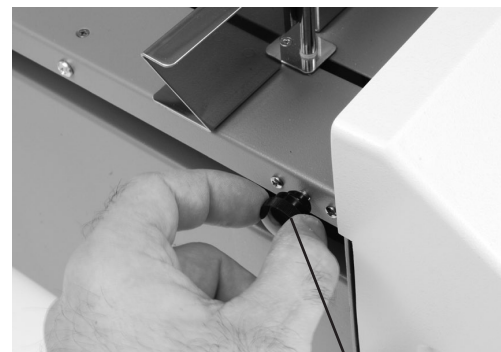

Fig. 10 Skew Adjuster
11. If the fold is skewed, remove paper, lower the infeed tray extension and turn the skew adjustment knob left or right to make corrections (Fig 10).